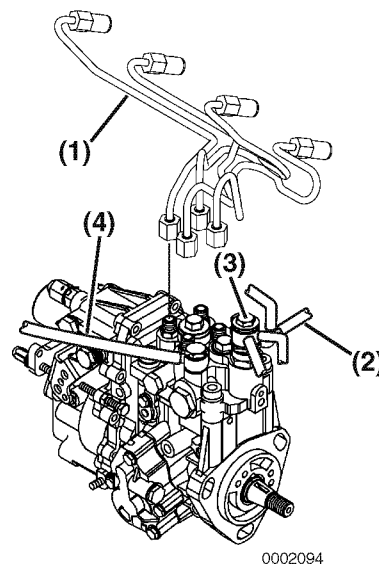

Figure 7-9
5. Remove the high-pressure fuel injection lines as an assembly (**Figure 7-9, (1)**).
8. Disconnect the coolant lines from the cold start device (**Figure 7-9, (3)**) on the fuel injection pump. Plug the open ends of the lines to minimize leakage and prevent contamination. This cooling water pipe is not used in electronically controlled engines 4ÇsNV84T-Z, 4TNV98-Z, 4TNV98-Z, and 4TNV98T-Z.
9. Disconnect the fuel return lines from the fuel return fitting (**Figure 7-9, (2)**). Plug the open ends of the lines to minimize leakage and prevent contamination.
10. Remove the fuel supply line (**Figure 7-9, (4)**). Plug the open end of the line to minimize leakage and prevent contamination.